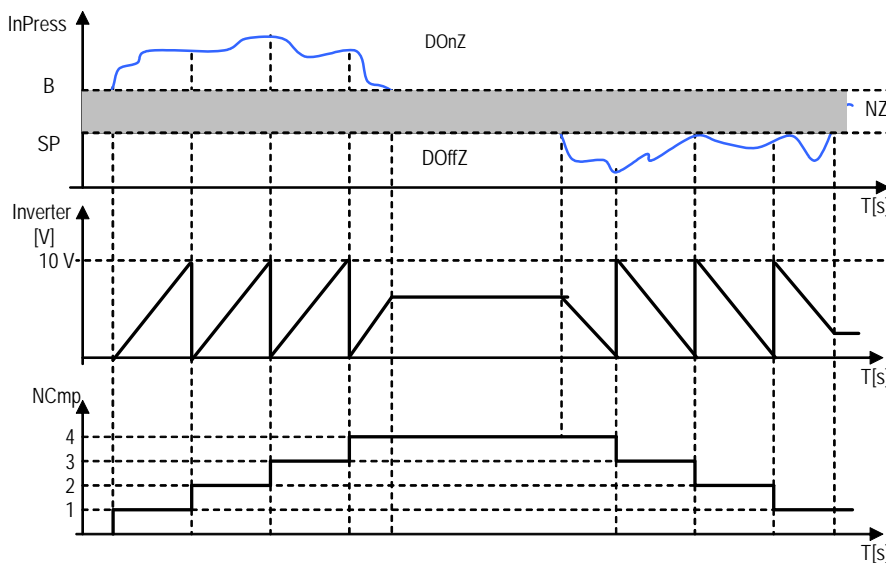

Fig 5.1
Dead zone control: The inverter is set on the first compressor, which will always be the first on and the last off. This control requires an offset to be set for the control of the inverter, screen S6, the setpoint (SP) and the inverter ramp time. Three zones are defined: DOnZ on zone, NZ dead zone and DOffZ off zone. Wherein the program behaves differently (see figure 5.1).